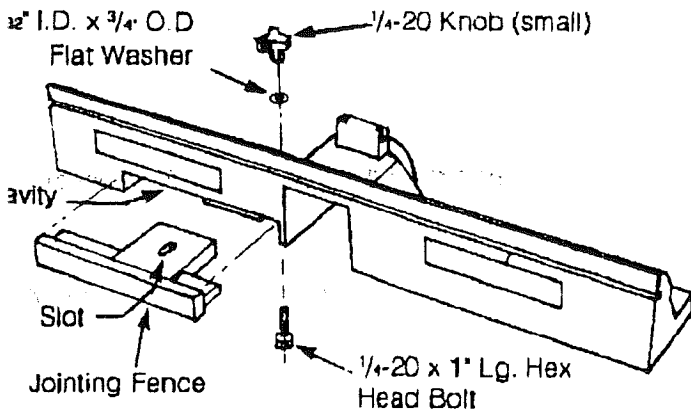

FIGURE 10.
1. Slide jointing fence through rectangular opening in the cavity provided on the unitized fence (V-guide on the unitized fence will slide in the V-guide on the underside of jointing fence). See Figure 10.